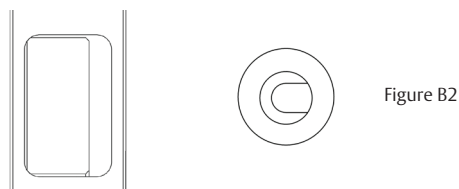

Figure B2
- If there is friction against the left side, adjust the opening of the C Bushing ②③ to the left. Refer to Figure B2.